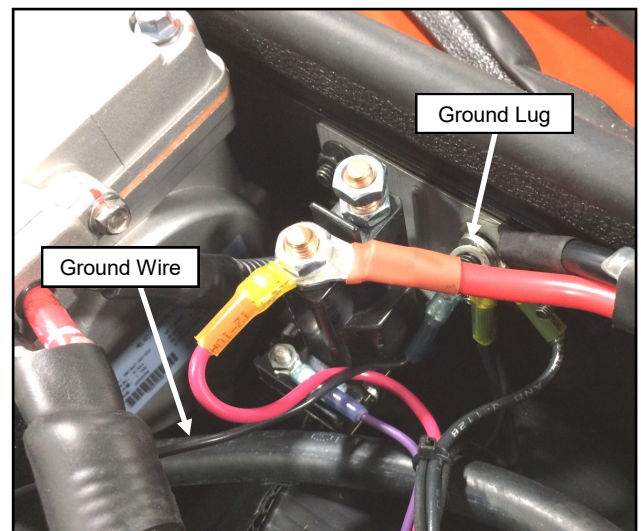

Fig. 2.14 (Install Ground Wire, A/C Unit)
- 2.14** Install the Controller Wire Harness' black ground wire onto the ground stud and tighten nut as shown in fig. 2.14.